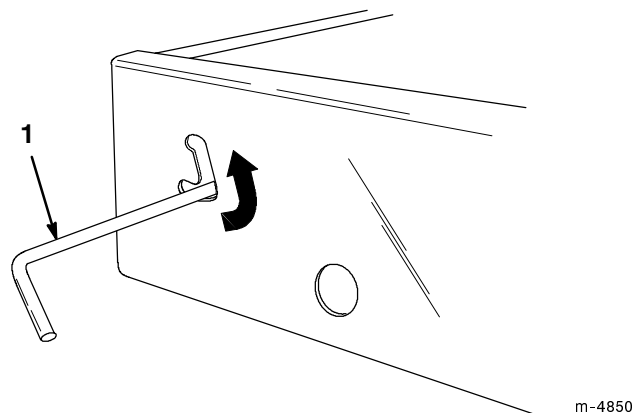

Figure 17
1. Slide latch upward toward top of cutout in bed frame (Fig. 17).